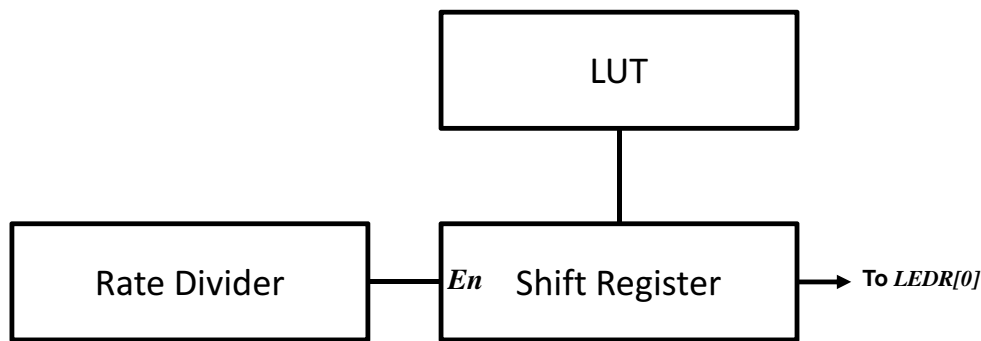

Figure 4: Block diagram of the Morse code circuit
Now that we have stored all possible patterns and can retrieve the one we want, we need to display the pattern on the LED, one bit at a time, for a duration of 0.5 seconds per bit. To do that you need to load a shift register in parallel with that pattern. The register should have the appropriate bit-width. Then, you need to shift the pattern out of the register, one bit at a time, and display each bit on the  $LEDR[0]$  for the appropriate interval (0.5 seconds per bit). A high-level block diagram of the circuit you are building is shown in Figure 4. Note that various details/connections are not shown there.
2. Design your circuit by first drawing a schematic of the circuit. Think and work through your schematic to make sure that it will work according to your understanding. You can use Figure 4 as your starting point. **(PRELAB)**